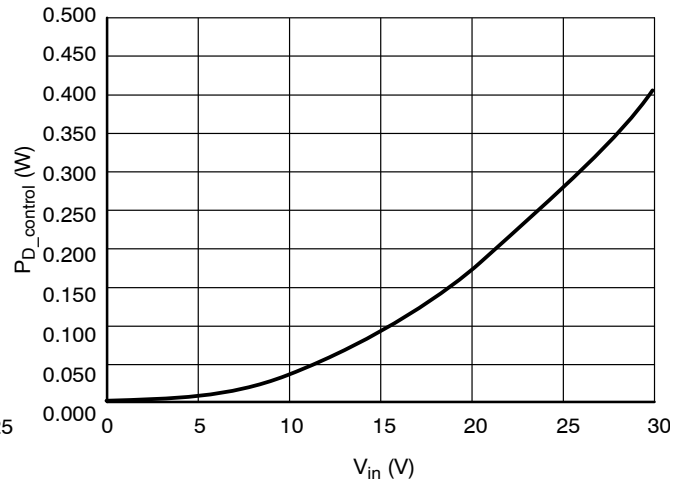

Figure 4. Internal Circuit Power Dissipation vs. Input Voltage
7. Establish Power Dissipation on the NUD4001 device's control circuit per Figure 4:
A  $P_{D\_control} = \text{Figure 4, for } 12 \text{ V input voltage}$